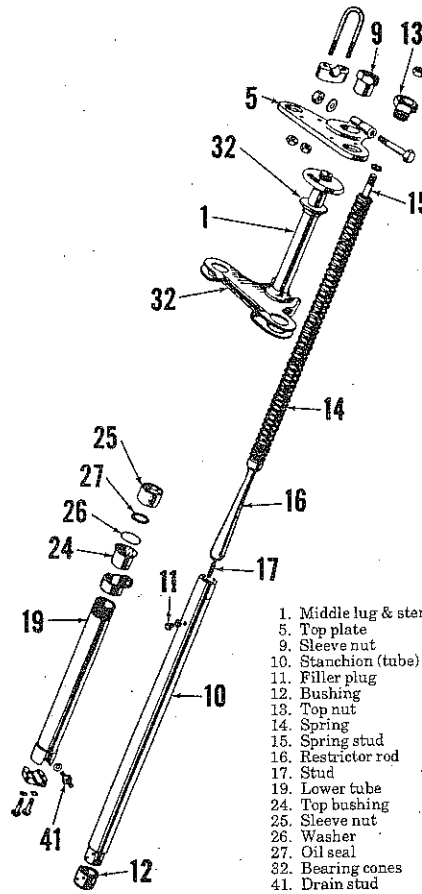

Fig. TM1-14—Exploded view of front suspension used on T20 and T20C models. Stem (1) rides on 1/4-in. diameter bearings. Fifteen are used in each race.
**SUSPENSION.** The front suspension used on T20 and T20C models is shown in Fig. TM1-14. Capacity of each unit is 75cc (1/2-pint). Unit is drained at stud (41) and refilled at plug (11). Oil should be drained and reserviced with SAW 30 oil every 5000 miles. Tube (10)